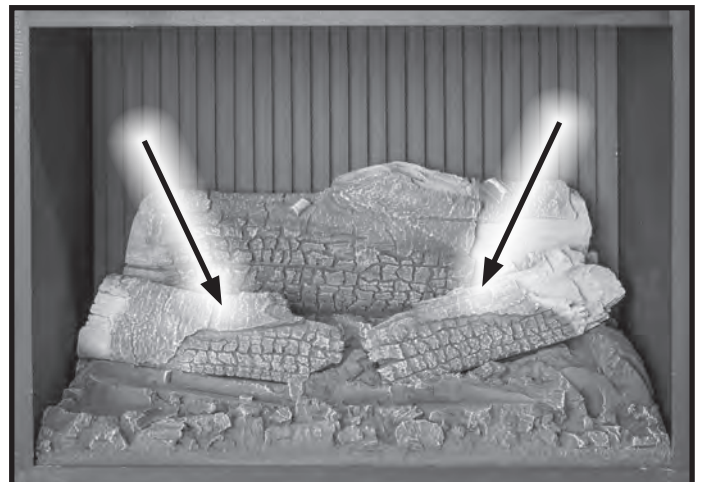

Figure 43. Rear Ember Bed Logs.
4. Next, Install the two large flat bottomed logs in the middle of the ember bed as shown in Figure 43.